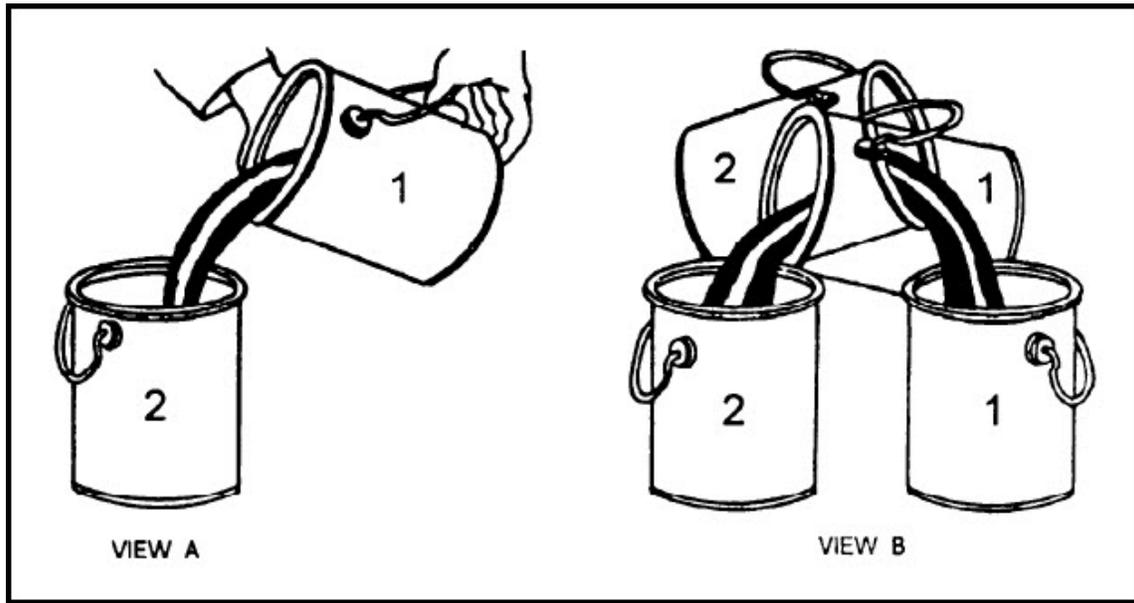

Figure 11-11 Paint mixing (boxing)
- Pour the top two-thirds of the paint into another can, as shown in view A of figure 11-11.
- Now, start to mix your paint by pouring it back and forth from one can to the other (this is called boxing) until the paint is completely smooth, as shown in view B of figure 11-11.